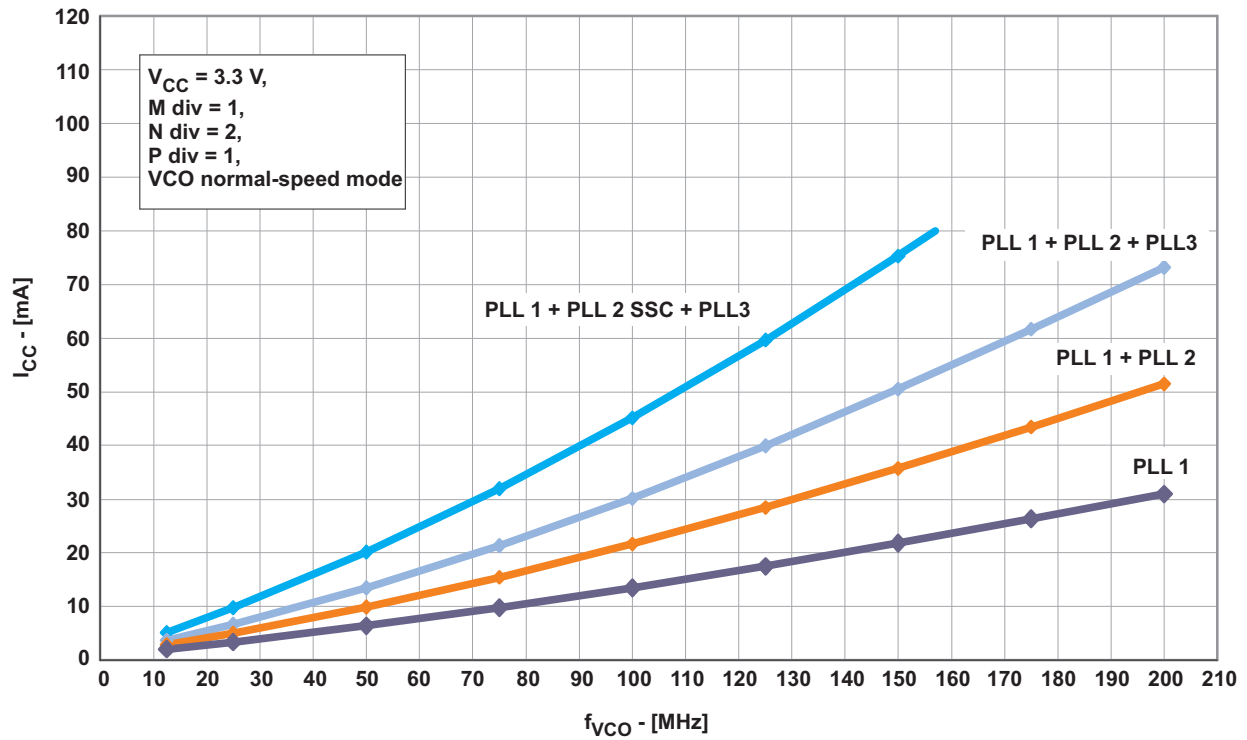
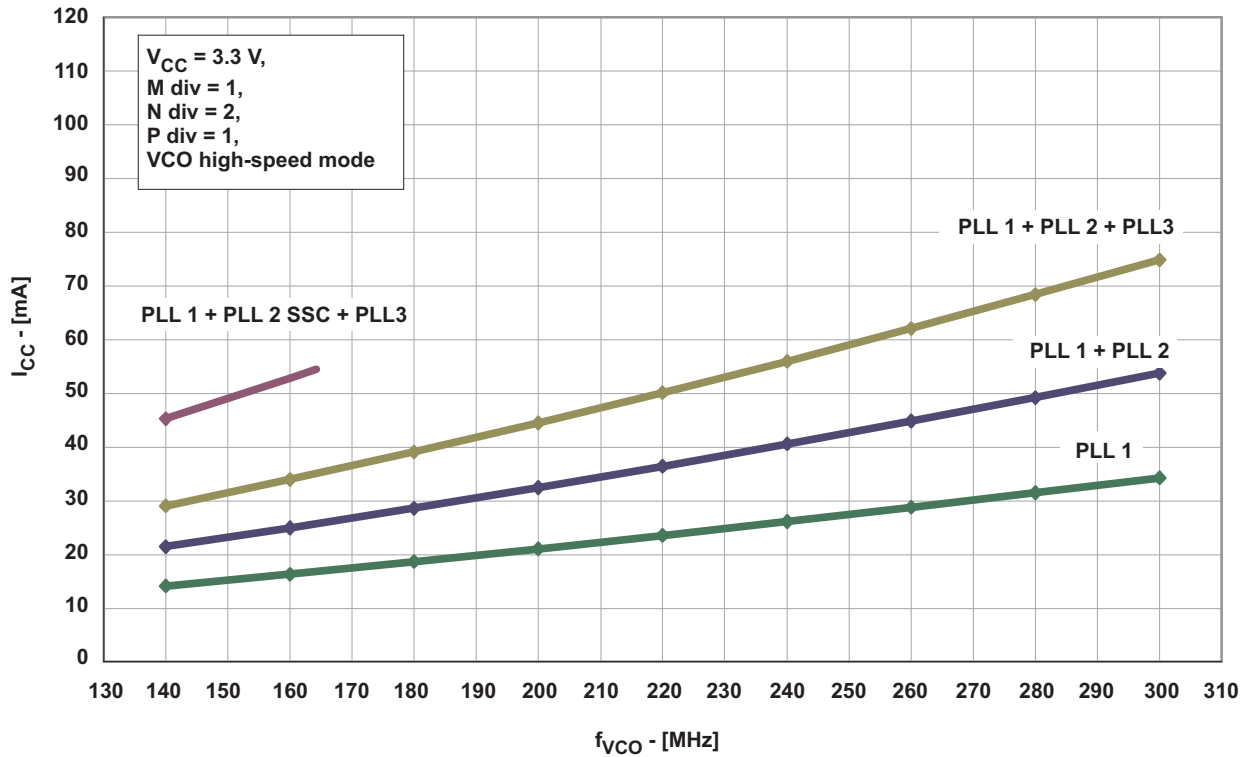
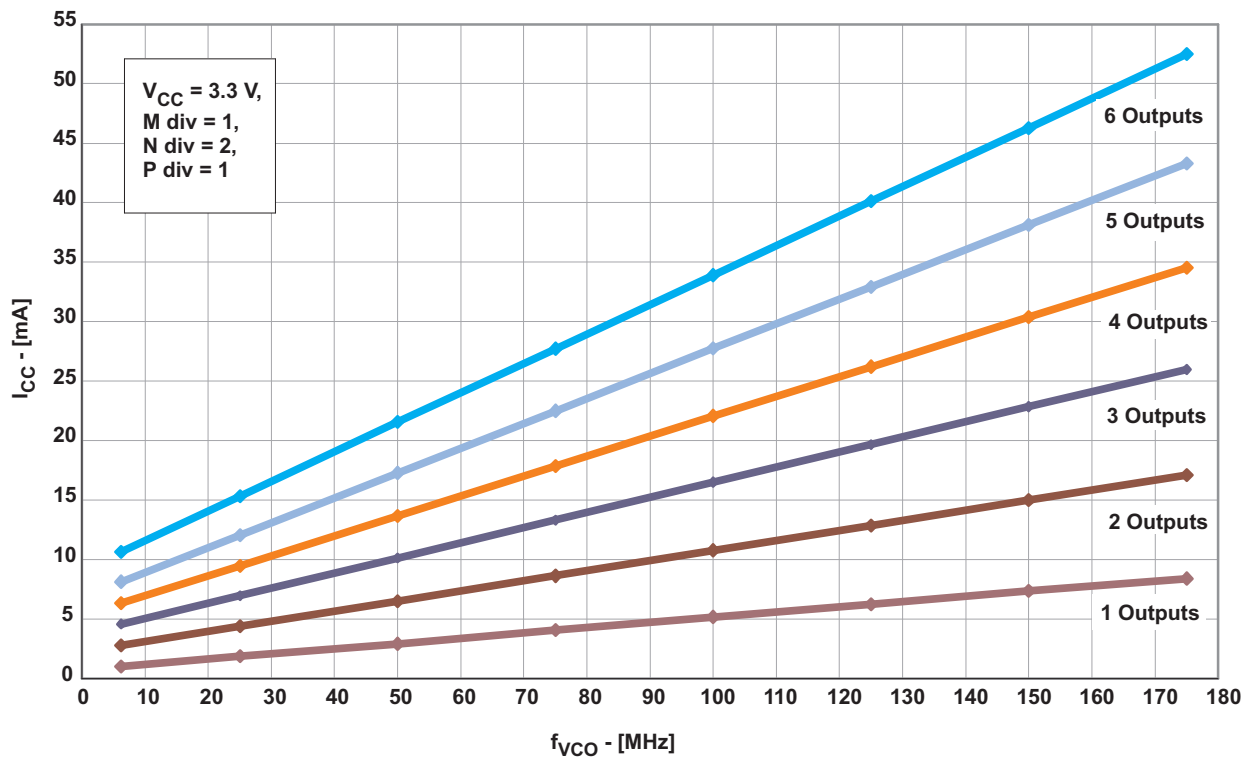

Figure 2. I_{CC} vs Number of PLLs and VCO Frequency (VCO at Normal-Speed Mode, Byte 6 Bit [7:5])
Figure 3. I_{CC} vs Number of PLLs and VCO Frequency (VCO at High-Speed Mode, Byte 6 Bit [7:5])
Figure 4. I_{CCOUT} vs Number of Outputs and VCO Frequency
(1) All typical values are at respective nominal V_{CC} .(2) For calculating total supply current, add the current from Figure 2, Figure 3, and Figure 4. Using high-speed mode of the VCO reduces the current consumption significantly. See Figure 3(3) Normal-speed mode or high-speed mode must be selected by the VCO frequency selection bit in Byte 6, Bit [7:5]. The min f_{VCO} can be lower but impacts jitter-performance.
(4) The maximum output frequency may be exceeded, but specifications under the Recommended Operating Condition may change and are no longer assured. Do not exceed the maximum power dissipation of the 20-pin TSSOP package (600 mW at no air flow).